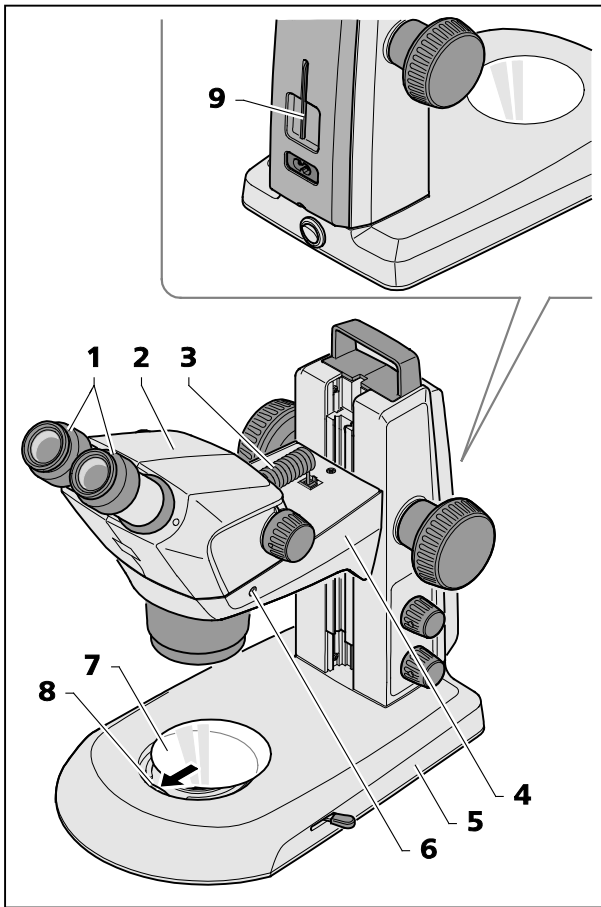

Fig. 10 Installing the stereo microscope
- If the Stemi 305 body (Fig. 10/2) has not yet been mounted, insert it in the Stemi mount (Fig. 10/4), align it and secure it using the clamping screw (Fig. 10/6).
The appropriate Allen key (Fig. 10/9) is located in the support on the back of the device.
- If the two eyepieces (Fig. 10/1) have not yet been mounted, insert them both to their stop in the eyepiece tube.
- Insert the connection cable (Fig. 10/3) supplied with the device into the socket on the Stemi body and in the socket on the Stemi mount.
- Insert glass plate or B/W plastic plate (Fig. 10/7) in the mount in the base of the stand. To this effect, press the glass plate or the B/W plastic plate against the spring (Fig. 10/8) and make it lock in.